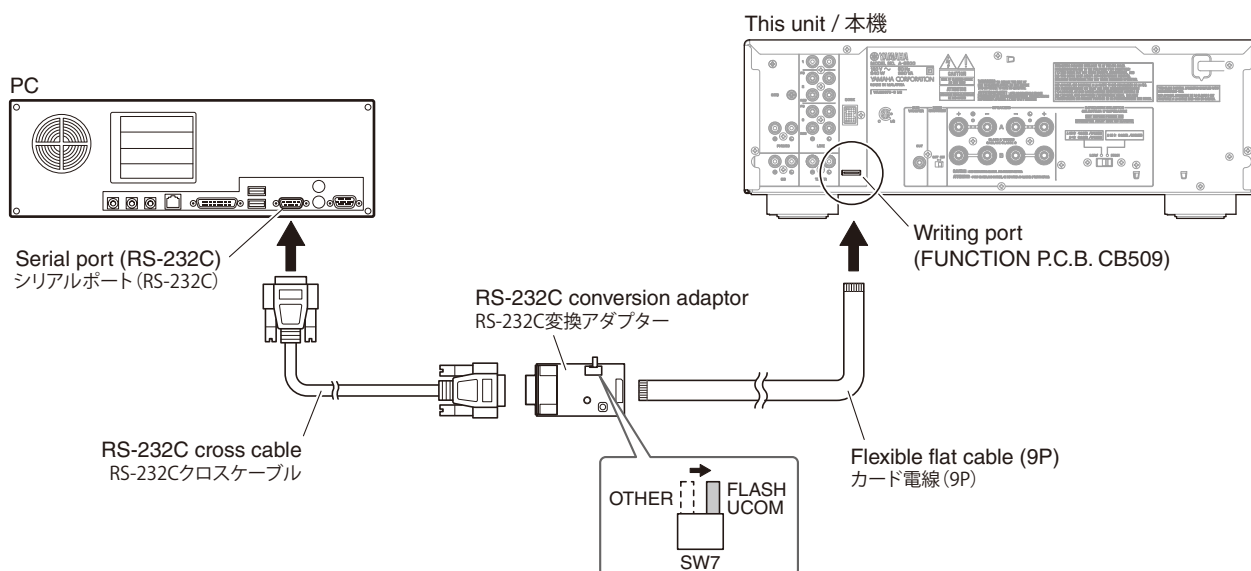

Fig. 1
- Set the switch (SW7) of RS-232C conversion adaptor to the "FLASH UCOM" position. (Fig. 1)
- Connect the writing port (CB509 of the FUNCTION P.C.B.) located on the rear panel of this unit to the serial port (RS-232C) of the PC with RS-232C cross cable, RS-232C conversion adaptor and flexible flat cable as shown below. (Fig. 1)
- RS-232C 変換アダプターのスイッチ (SW7) "FLASH UCOM" 側に設定します。(Fig. 1)
- 本機の書き込み用ポート (FUNCTION P.C.B. の CB509) と PC のシリアルポート (RS-232C) を下記のように接続します。(Fig. 1)